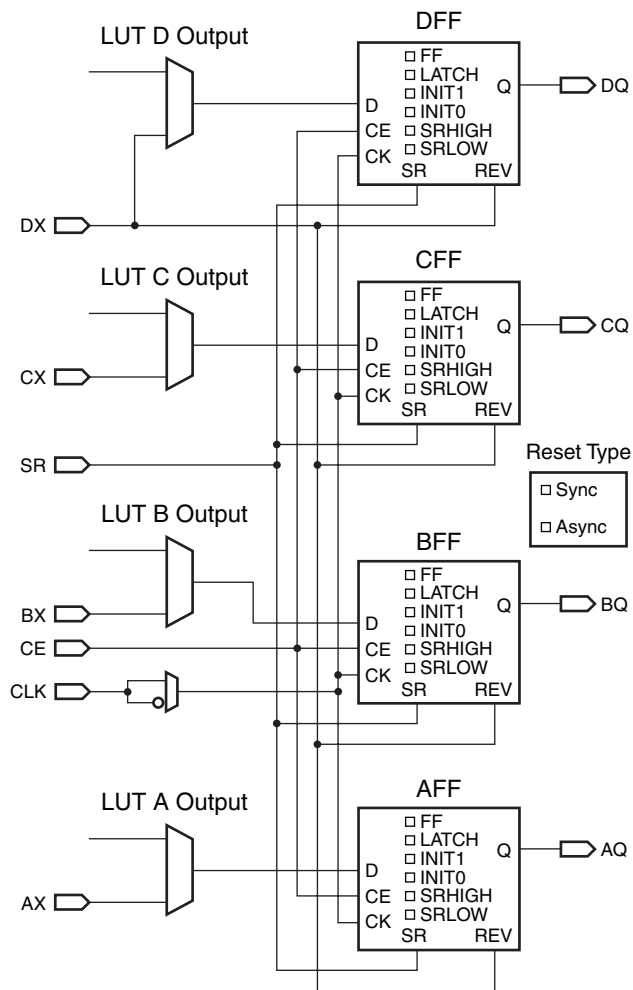

Figure 5-5: Register/Latch Configuration in a Slice
The SR signal forces the storage element into the state specified by the attribute SRHIGH or SRLow. SRHIGH forces a logic High at the storage element output when SR is asserted, while SRLow forces a logic Low at the storage element output. When SR is used, an optional second input (DX) forces the storage element output into the opposite state via the REV pin. The reset condition is predominant over the set condition (see Figure 5-5). Table 5-3 and Table 5-4 provide truth tables for SR and REV depending on whether SRLow or SRHIGH is used.